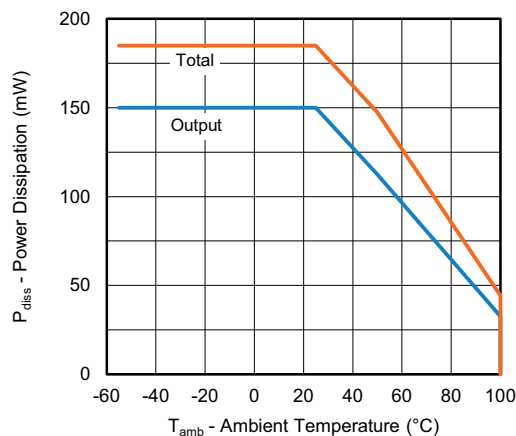

Fig. 2 - Power Dissipation vs. Ambient Temperature
- (1) Common mode transient immunity in logic high level is the maximum tolerable (positive) dV_{cm}/dt on the leading edge of the common mode pulse, V_{CM} , to assure that the output will remain in a logic high state (i.e. $V_O > 2\text{ V}$) common mode transient immunity in logic low level is the maximum tolerable (negative) dV_{cm}/dt on the trailing edge of the common mode pulse signal, V_{CM} , to assure that the output will remain in a logic low state (i.e. $V_O < 0.8\text{ V}$)
- (2) In applications where dv/dt may exceed 50 000 V/ μ s (such as state discharge) a series resistor, R_{CC} should be included to protect I_C from destructively high surge currents. The recommended value is refer to Fig. 2.